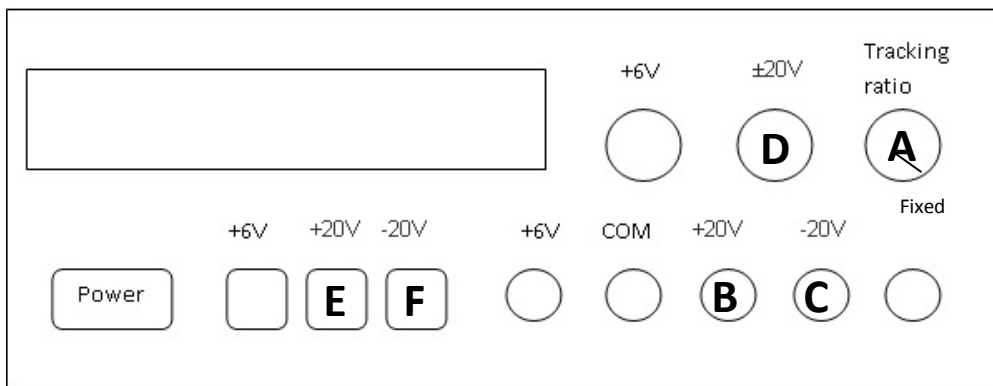

Figure 3: Ensuring the power supply is working correctly.
1. Turn the “Tracking ratio” dial on the power supply to the right and set it to “Fixed”. In Figure 3, the “Tracking Ratio” it is indicated as label **A**. This will enable you to set both the +20 V (label **B**) and -20 V rails (label **C**) of the power supply at the same time to the same value, but one rail will be positive and the other negative.